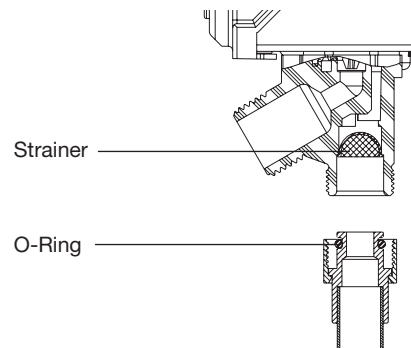

Figure 1
3. Insert the leak sensor plug (Figure 1) into the leak sensor receptacle on front panel (Figure 2).
1. Before plugging in the IntelliFlow™ power cord into an electrical receptacle, ensure that the leak sensor plug (Figure 1) is unplugged from the IntelliFlow unit (Figure 2).
4. Plug the leak sensor plug into the leak sensor receptacle on the front panel. This will calibrate the IntelliFlow™ to the washing machine's off or standby position current draw. During the calibration sequence, the red LED lamp will remain lit for approximately 3-5 seconds. When calibration is complete the red LED lamp will blink four (4) times and shut off.
To calibrate the IntelliFlow™ for use with the IntelliTimer be sure that the washing machine is off and ensure that the power supply to the IntelliTimer is plugged into the IntelliFlow™ unit. Remove the leak sensor plug (Figure 1) from the receptacle, wait 5 seconds, then reinstall the sensor plug. During the calibration sequence, the red LED lamp will remain lit for approximately 3-5 seconds. When calibration is complete the red LED lamp will blink four (4) times and shut off.
To recalibrate the IntelliFlow™, be sure that the washing machine is **off**. Remove the leak sensor plug (Figure 1) from the receptacle, wait 5 seconds, then reinstall the leak sensor plug. During the calibration sequence, the red LED lamp will remain lit for approximately 3-5 seconds. When calibration is complete the red LED lamp will blink four (4) times and shut off.
2. Service strainers on IntelliFlow™ (see figure 1).